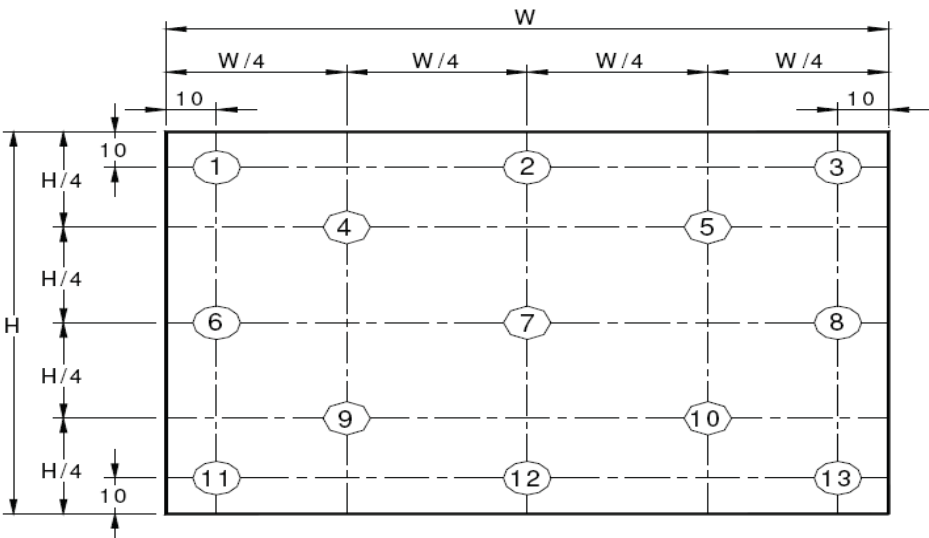

Figure 9. Uniformity Measurement Locations (13 points)
Notes : - Viewing angle is the angle at which the contrast ratio is greater than 10. The viewing angles are determined for the horizontal or 3, 9 o'clock direction and the vertical or 6, 12 o'clock direction with respect to the optical axis which is normal to the LCD surface (see Figure 7). - Contrast measurements shall be made at viewing angle of $\Theta = 0$ and at the center of the LCD surface. Luminance shall be measured with all pixels in the view field set first to white, then to the dark (black) state . (see Figure 7) Luminance Contrast Ratio (CR) is defined mathematically. $CR = \frac{\text{Luminance when displaying a white raster}}{\text{Luminance when displaying a black raster}}$ - Center Luminance of white is defined as luminance values of 5 point average across the LCD surface. Luminance shall be measured with all pixels in the view field set first to white. This measurement shall be taken at the locations shown in Figure 8 for a total of the measurements per display. - The White luminance uniformity on LCD surface is then expressed as : $\Delta Y = \text{Minimum Luminance of 5(or 13) points} / \text{Maximum Luminance of 5(or 13) points.}$(see Figure 8 and Figure 9). - The color chromaticity coordinates specified in Table 5 shall be calculated from the spectral data measured with all pixels first in red, green, blue and white. Measurements shall be made at the center of the panel. - The electro-optical response time measurements shall be made as Figure 10 by switching the “data” input signal ON and OFF. The times needed for the luminance to change from 10% to 90% is T_r, and 90% to 10% is T_r. - Cross-Talk of one area of the LCD surface by another shall be measured by comparing the luminance (YA) of a 25mm diameter area, with all display pixels set to a gray level, to the luminance (YB) of that same area when any adjacent area is driven dark. (See Figure 11).
The White luminance uniformity on LCD surface is then expressed as : $\Delta Y5$ = Minimum Luminance of five points / Maximum Luminance of five points (see Figure 8) , $\Delta Y13$ = Minimum Luminance of 13 points /Maximum Luminance of 13 points (see Figure 9).